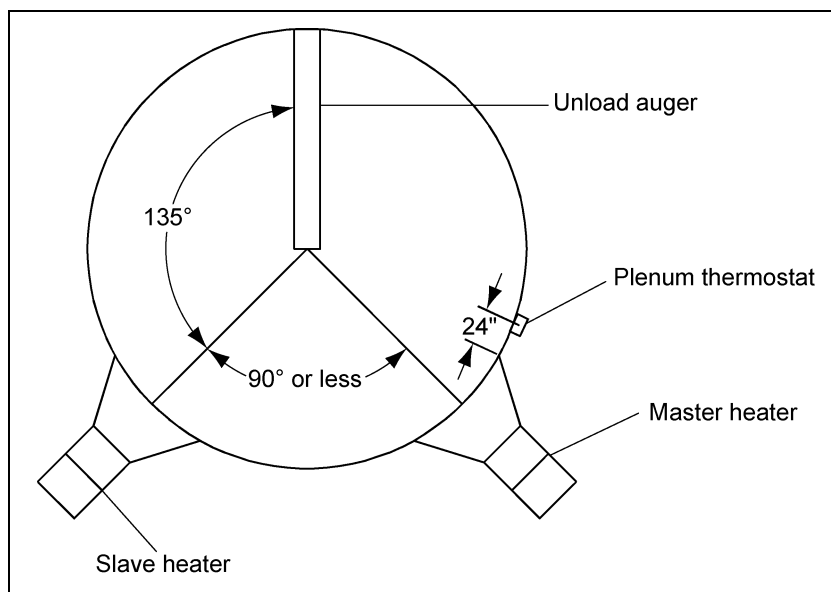

Figure 4E
IMPORTANT: When mounting two (2) heaters on a bin it is imperative that they be situated as shown in Figure 4E. Plenum thermostat must be to the right of master heater and master heater must be to the right of slave heater.